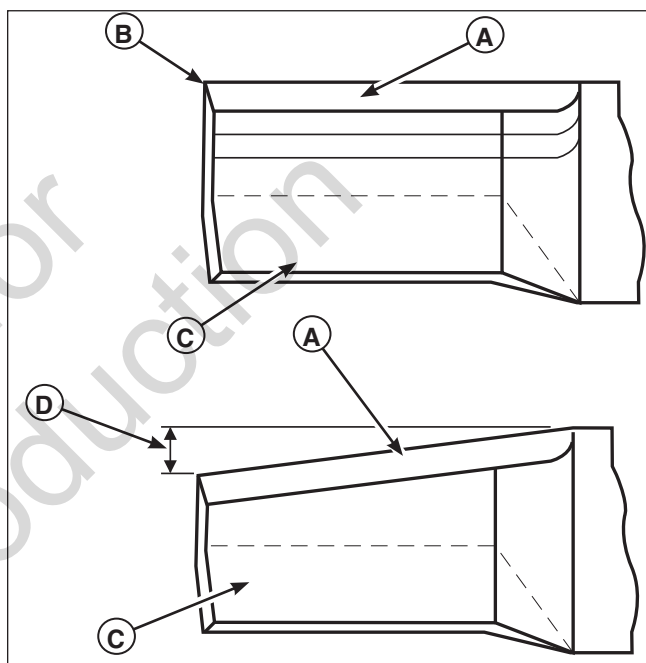

Figure 28. inspecting the Mower Blade Tips
2. Inspect the mower blade (Figures 28 & 29). **Discard the mower blade if it has any of the below conditions.**
- A.) Has more than .5" (12,7 mm) of the mower blade metal removed from previous sharpening or wear (D, Figure 28).